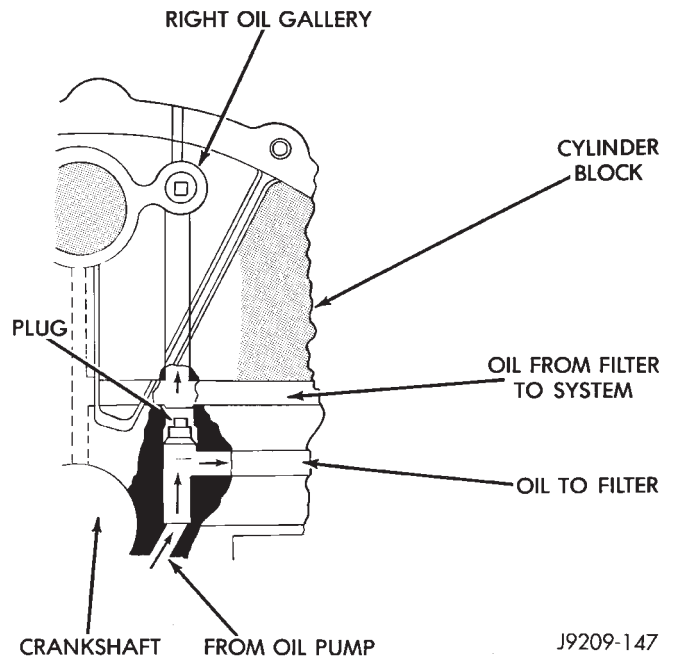

Fig. 74 Oil Line Plug
The oil line plug is located in the vertical passage at the rear of the block between the oil-to-filter and oil-from-filter passages (Fig. 74). Improper installation or plug missing could cause erratic, low, or no oil pressure.
(1) Remove oil pressure sending unit from back of block.
(2) Insert a 3.175 mm (1/8 in.) finish wire, or equivalent, into passage.
(3) Plug should be 190.0 to 195.2 mm (7-1/2 to 7-11/16 in.) from machined surface of block (Fig. 74).